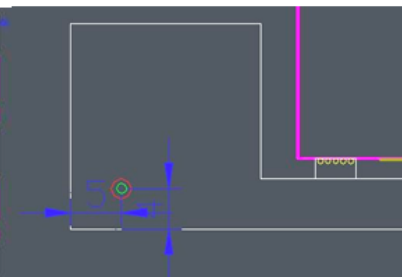

Figure 5
2. The center of each mark point must be 4 mm or more from the PCB edge, as shown in Figure 5.